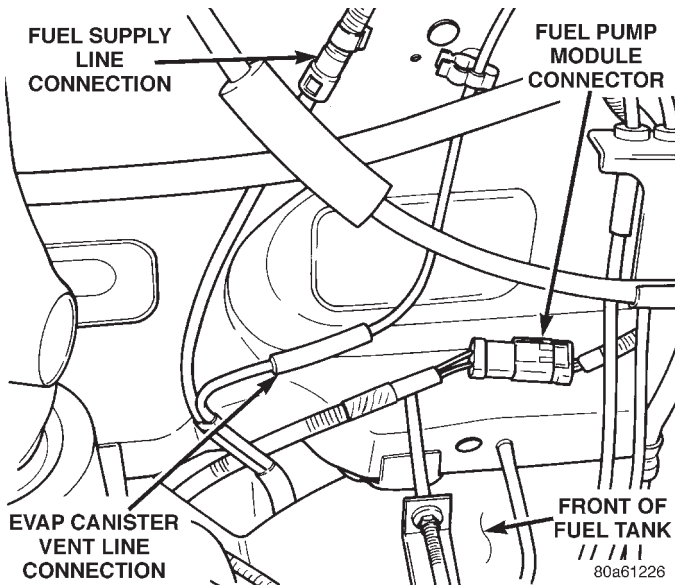

Fig. 38 Fuel Tank Connections at Front of Fuel Tank
- (10) Disconnect fuel supply line near front of fuel tank (Fig. 38). Refer to Fuel Tubes/Lines/Hoses and
- (11) Disconnect EVAP canister vent line near front of tank (Fig. 38).
(12) Disconnect fuel pump module electrical connector (pigtail harness) near front of tank (Fig. 38). Harness connector is clipped to body.